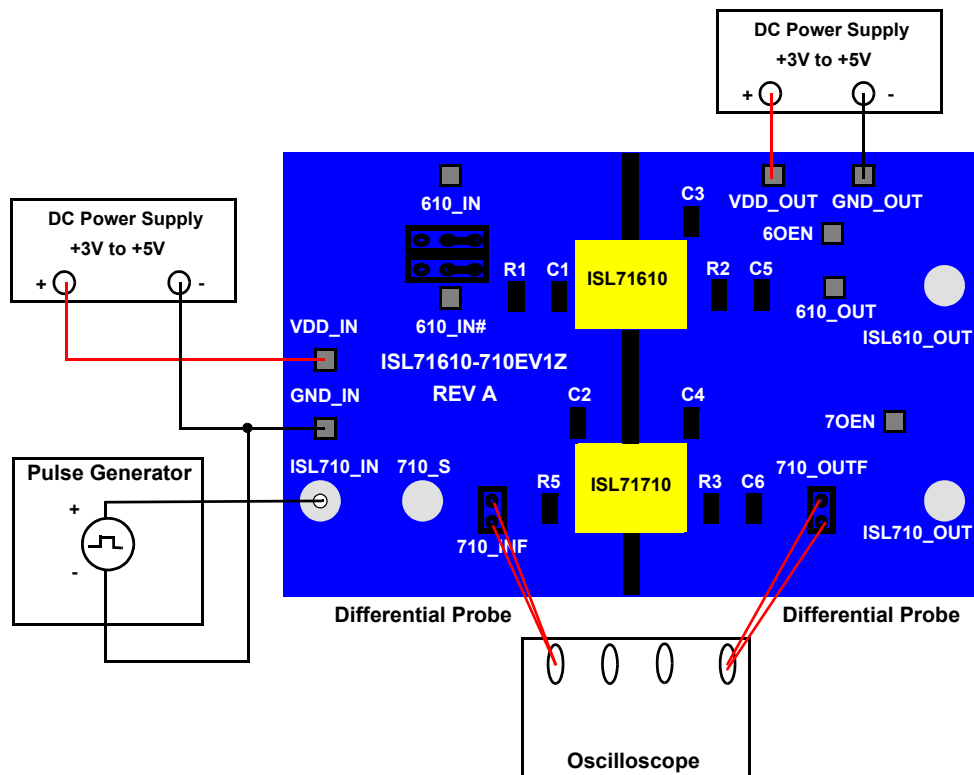

Figure 3. ISL71710M Basic Evaluation Test Setup Block Diagram
- (1) Configure the board as shown in Figure 3 on page 7.
- (2) Connect a 5V power supply to VDD_IN and GND_IN. With the power supply disabled, set the supply to 5V.
- (3) Connect a 5V power supply to VDD_OUT and GND_OUT. With the power supply disabled, set the supply to 5V.
- (4) Connect a pulse/pattern generator to the ISL710_IN banana jack. With the generator disabled, set it up to output a 10MHz square wave with a signal level of 0V to 5V.
- (5) Connect one channel of the oscilloscope with a differential probe to the input of the isolator at the differential connector 710_INF.
- (6) Connect a second channel of the oscilloscope with a differential probe to the output of the digital isolator at differential connector 710_OUTF.
- (7) Enable the DC supply connected at VDD_IN. Then enable the DC supply connected at VDD_OUT.
- (8) Enable the pulse generator. The 0V to 5V, 75MHz signal from the generator displays on both channels of the oscilloscope.
- (9) Turn the VDD_OUT supply voltage down to 3V. The output signal level decreases to 3V.
- (10) Turn the input signal amplitude down to 3V. Increase the VDD_OUT supply voltage up to 5V. The output signal level increases to 5V.
- (11) Connect a jumper wire from the 70EN connector to GND_OUT to disable the input signal from passing to the output of the IC. The oscilloscope channel connected at the output of the part should no longer be present. Remove the jumper wire and the output signal should now be present on the oscilloscope.